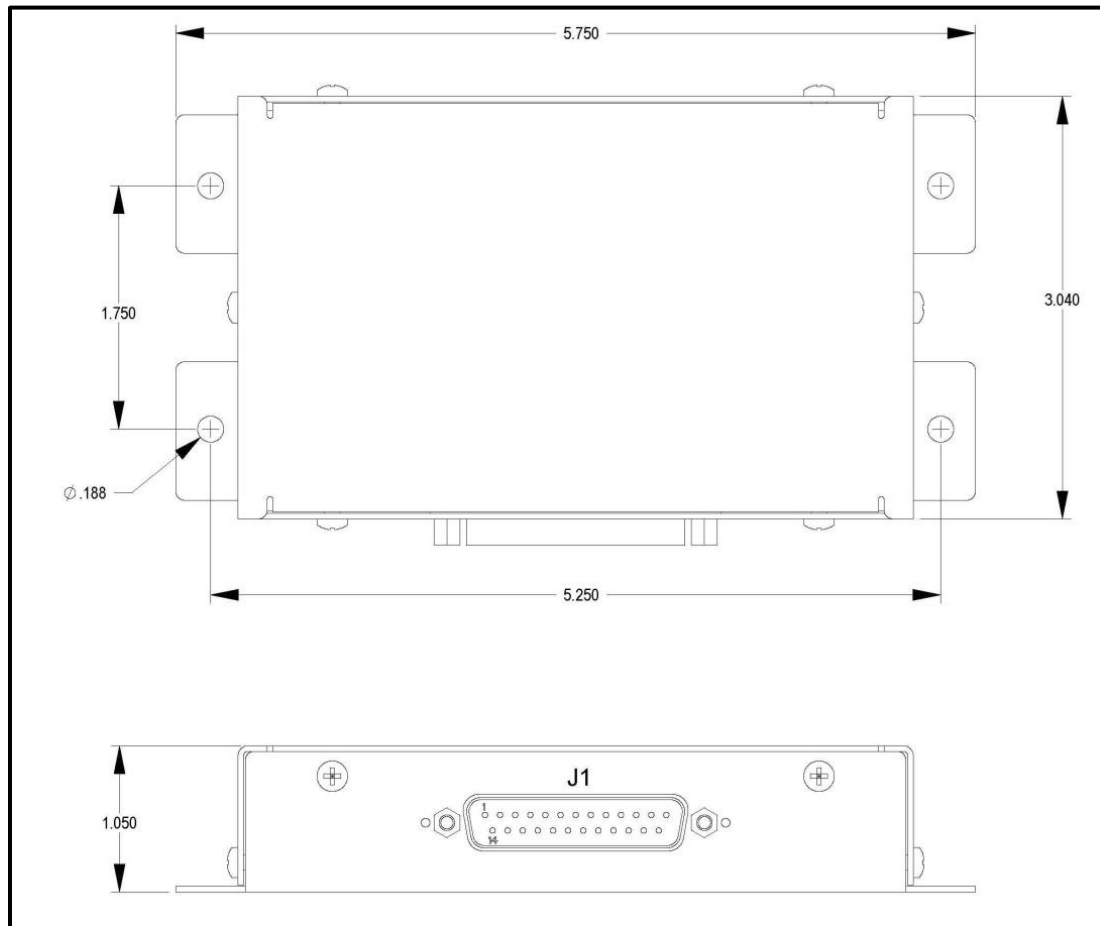

Figure 1: P178 Failsafe Audio Mixer Dimensions
- b. Mount the P178 Failsafe Audio Mixer using (4) #8-32 screws, washers and locknuts or nutplates. When mounting into composite structure, #8-32 potted inserts should be used.
- e. Refer to Figure 1 for P178 Failsafe Audio Mixer reference dimensions that may be used when planning the installation.